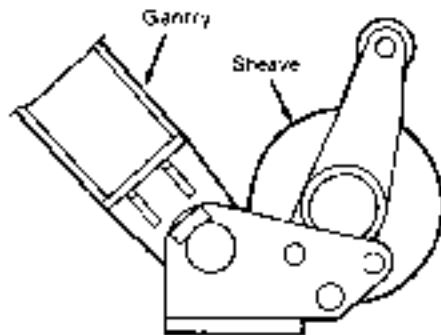

Figure 5. Sheave Arrangement (Gantry in working position)
(See Figures 5, 6, 7 and 8)
1. When the crane is equipped with a rear auxiliary drum and/or a boom hoist with external ratchet and pawl, the boom hoist reeving comes over the front of the crane through the sheave arrangement (see Figure 5) at the front of the gantry (Refer to Boom Rigging Drawing for reeving diagram).